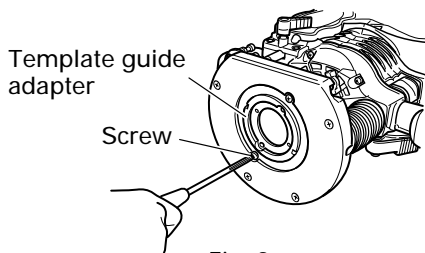

Fig. 9
(1) Template guide adapter
① Loosen the 2 template guide adapter screws, so that the template guide adapter can be moved. (Fig. 9)